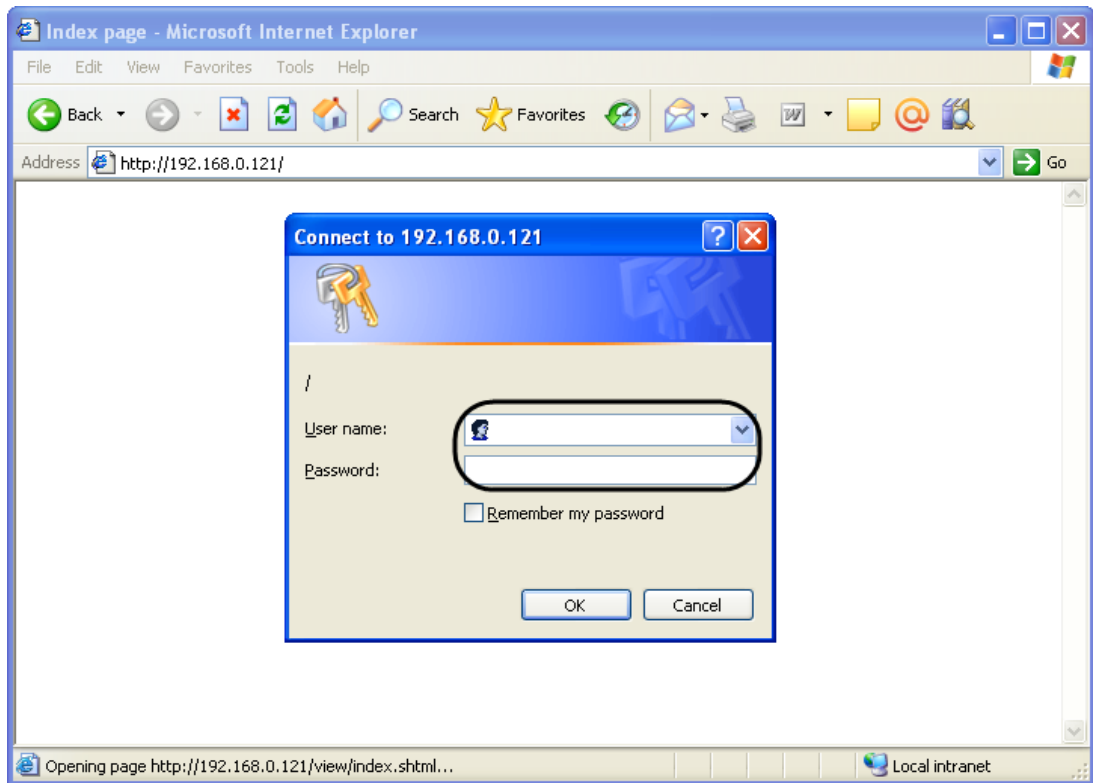

Figure 6.1-11 User name and password dialog box for access a home page of a network device
2. Enter a user name and password to access a home page of a network device. The data entered in the **User name** and **Password** fields can be found in the documentation to the add-on network device (Figure 6.1-11).